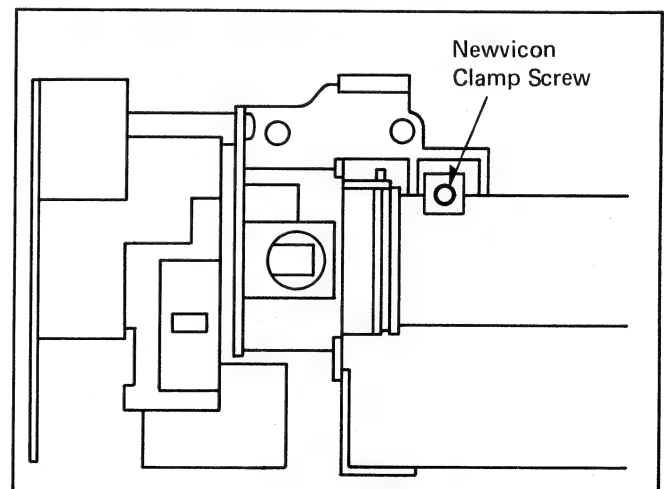

Fig. 18 Deflection Yoke View
5. Loosen the newvicon clamp screw on the deflection yoke assembly as shown in Fig. 18.